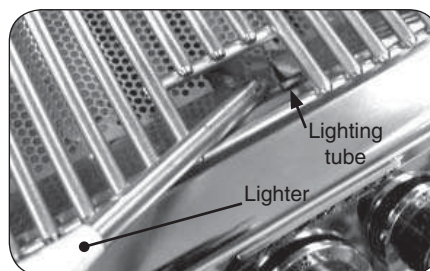

Fig. 17-2 - Manual lighting
2. Insert either a burning long-barrel butane lighter or a burning long-stem match through the cooking grid opening to the top of the lighting tube. (Fig. 17-2). For backburners, hold the flame against the perforated material of the backburner.
4. If the burner does not light, **immediately depress the knob and turn the valve to OFF**. **WAIT FIVE (5) MINUTES** before repeating steps 2 through 4 of the MANUAL LIGHTING instructions.